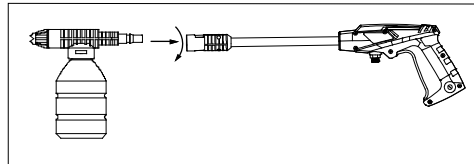

Figure 8 - Attach applicator to gun
4. Attach detergent applicator to gun. (See Figure 8)